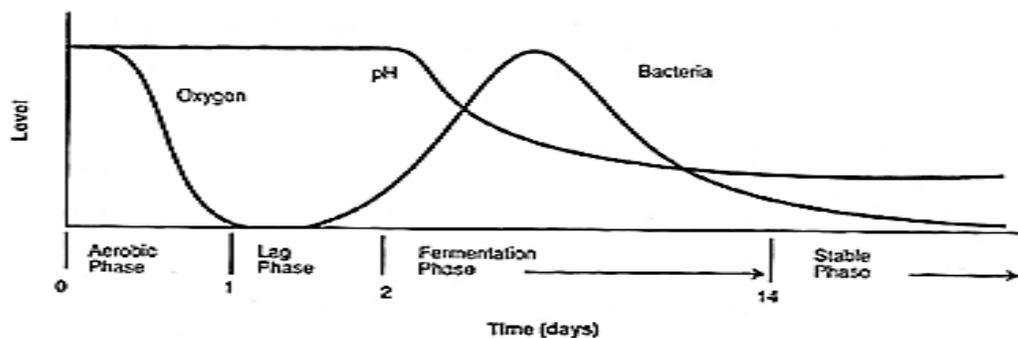

Figure 2. Silage fermentation phases and idealized timeline for each phase (Source: Pitt, 1990)
**Bacteria:** Lactic acid bacteria (LAB) are necessary for rapid conversion of plant sugars to important volatile fatty acids plus lactic acid. The net result is a drop pH of the forage mass in the silo, this is necessary for long-term storage and stability of the material. Tens of thousands of colony forming units (cfu) of bacteria reside on plant leaf surfaces. The number of cfu's per gram of leaf surface is dependent on the crop and time of seasonal harvest. Often there is abundant bacteria to do the job, other times they are lacking in abundance or relative activity. At this time it is advisable to supply additional bacteria for effective fermentation. Some regions of the world, like Europe and England, also use direct acidification, with organic acids added directly to the crop at the silo to lower pH and stabilize the material. These acids can be hazardous to both humans and the equipment. Western silage managers have chosen to use natural fermenters, LAB, to do the job of proper ensiling. These bacteria will convert glucose sugar (the building block for starch in grains and a component of fructosans in perennial cool-season grasses) to lactic and other acids by homofermentation or heterofermentation (Woolford, 1984). Homofermentation produces only lactic acid without DM or energy losses while heterofermentation results in various acids, some desirable and some not but always with a loss of DM and energy. LAB promotes the four phases of silage making, Figure 2 (Pitt, 1990).